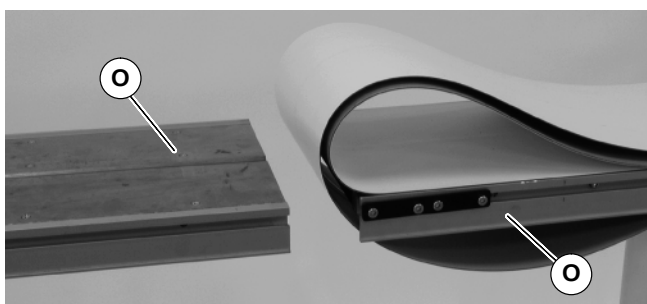

Figure 4
1. Locate conveyor sections (O of Figure 4)